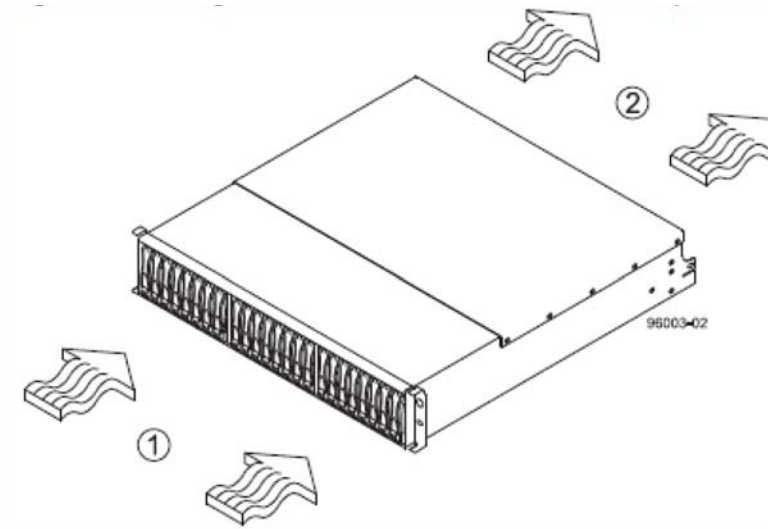

Figure 2-6 IS2224 JBOD Enclosure Airflow Example
Use two people whenever installing the IS2224 JBOD enclosure as the unit can weigh up to 40 lbs (18.1 kg). Be sure the airflow through the unit matches with other components installed in the rack, Figure 2-6 shows the airflow pattern from the front (1) to the rear (2).